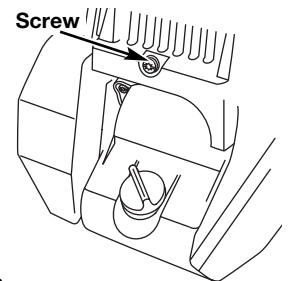

Fig. 37
3. Remove the screw behind the engine cover (Fig. 37).